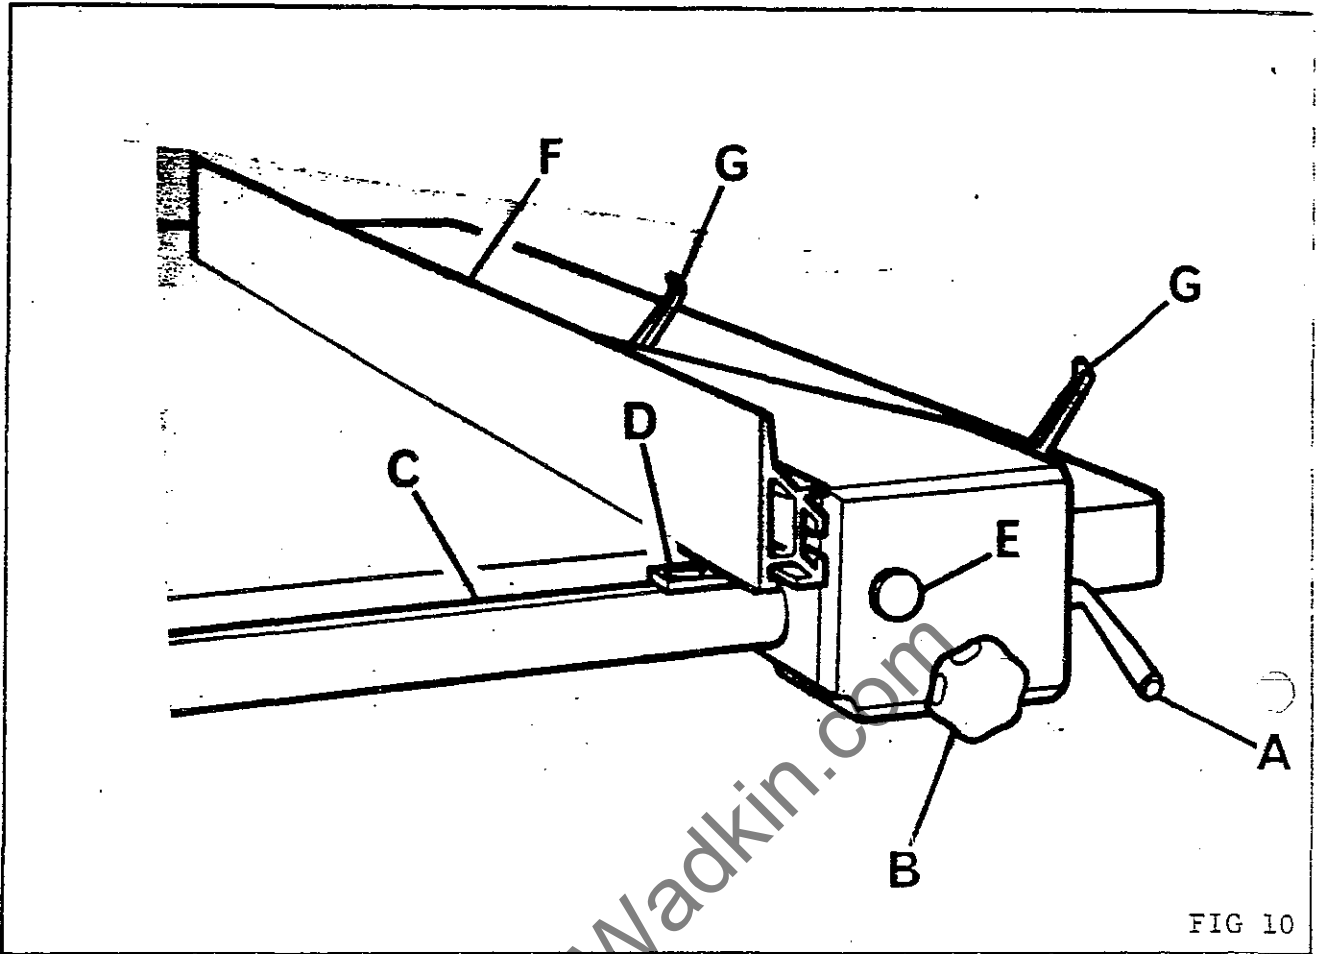
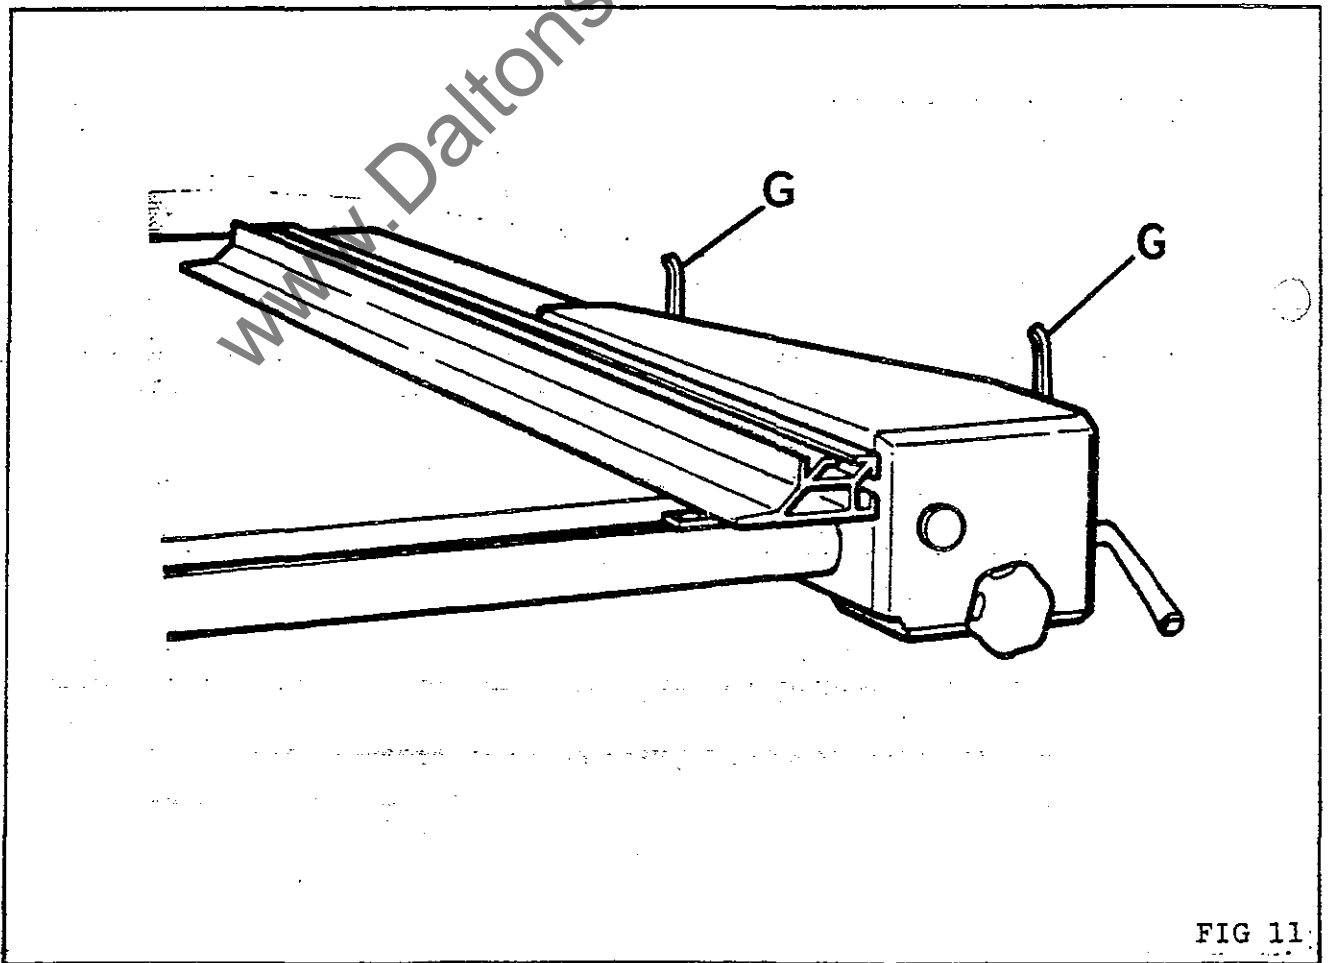

FIG 10
FIG 11
1. Lift handle "A" in FIG 10, then disengage the pinion from the front racked fence bar by pulling handwheel "B" out of the fence front bracket.
The fence plate "F" in FIG 10 has 2 positions. Position shown in FIG 10 is for use with deep stock. Position shown in FIG 11, is for use with faced panels, melamine, veneer, etc. To change the fence plate position, follow the undermentioned procedure.
1. Loosen handles "G" in FIG 10, then slide fence plate "F" from the 2 mountings on fence body.
2. With the fence plate "F" removed, revolve the 2 fence locking plates one half turn each to ensure correct location when fence plate is re-fitted to position in FIG 11.
When the fence plate position has been changed as previously described, the pointer "D" in FIG 10 must be re-set accordingly. To re-set pointer, proceed as follows:-
1. Lift handle "A" in FIG 10, then move fence to a position which would allow a reasonable cut to be taken. Depress handle "A" to lock fence in position.
3. Accurately measure the width of timber after cut then loosen knurled screw "E" in FIG 10, and set rule pointer "D" accordingly. Re-lock knurled screw "E".